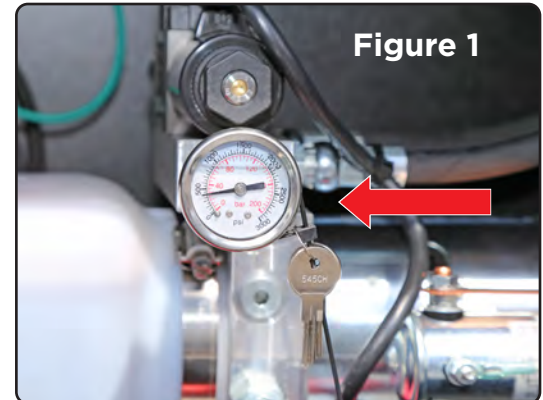

Figure 1
2. Locate pressure gauge mounted to the side of the hydraulic unit (See Figure 1).